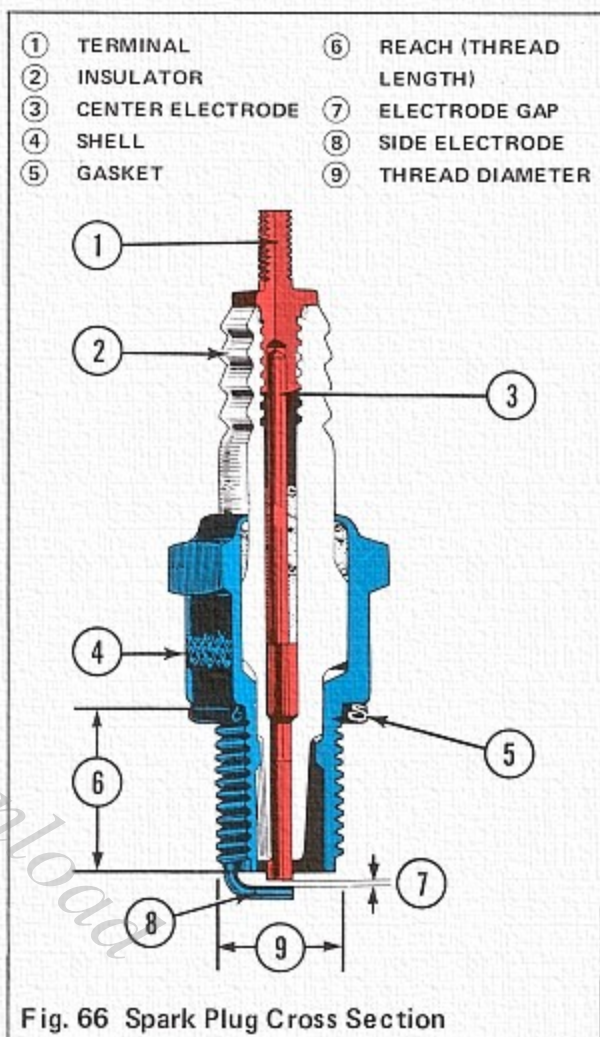

Fig. 66 Spark Plug Cross Section
Fig. 66 shows the cross section of a typical spark plug. The spark plug provides an electrode gap inside the combustion chamber where a spark will ignite the air-fuel mixture. The insulator (2) is sealed to the center electrode (3) and shell (4) to prevent the escape of combustion gases through the spark plug. A gasket (5) under the shoulder of the shell prevents the escape of combustion gases between the spark plug and cylinder head.
Spark plugs are manufactured in standard sizes which are classified in terms of thread diameter (9) and reach (6) (Fig. 66 & 67). *Reach* is the distance from the shoulder of the shell to its threaded end. Gasket thickness is not included in the reach measurement. These spark plug dimensions must match the corresponding cylinder head dimensions of the motorcycle. For example, a Honda CB-750 requires spark plugs with a 12mm thread diameter and 19mm ($\frac{3}{4}$ in.) reach. Various Honda models use spark plugs of 10mm, 12mm, or 14mm thread diameter and 12.7mm ($\frac{1}{2}$ in.) or 19mm ($\frac{3}{4}$ in.) reach.
The gap ⑦ between center electrode ③ and side electrode ⑧ (Fig. 66, page 43) must be wide enough to produce a good spark, but not so wide that the ignition coil cannot produce enough voltage to jump the gap. The gap widens with use due to electrode erosion from heat and chemical action. Spark plug voltage requirements increase as the gap widens.